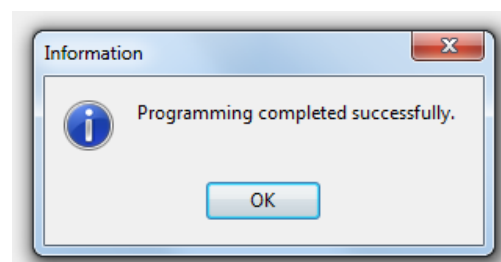

Fig. 24 Finish upload.
- Press: **OK** to finish upload (Fig. 24).